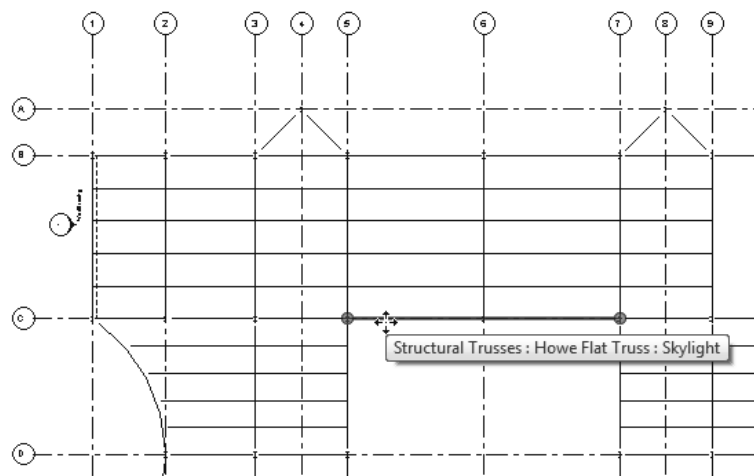

Figure 7-68
5. Draw the first truss, as shown in Figure 7-68.